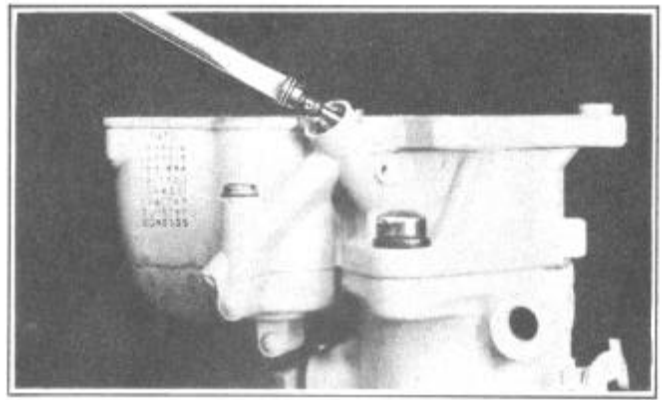

FIGURE 21
7. Remove pump jet plug and gasket assembly and pump jet, Figure 21.